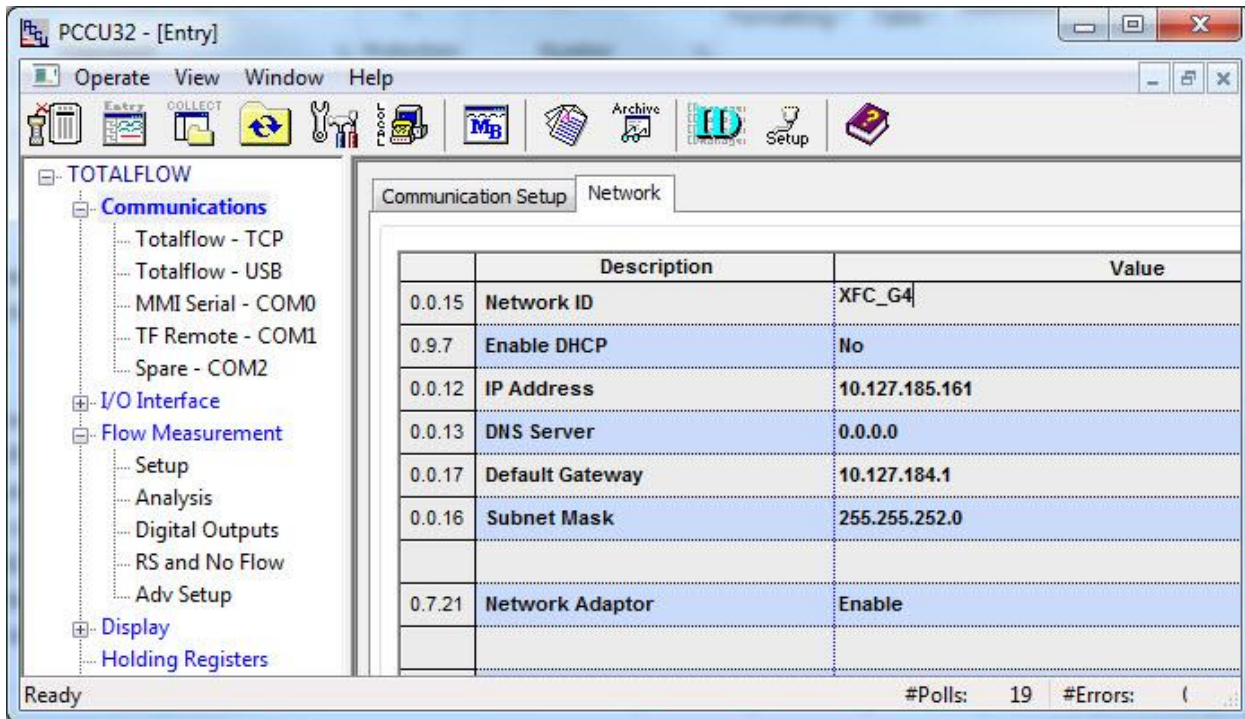

Figure 68 Network Tab: Configure static IP address
- b. If using static addresses, make sure to set **Enable DHCP** to **No** (Figure 68). Type the IP Address, Subnet Mask, and Default Gateway, provided by the IT administrator.